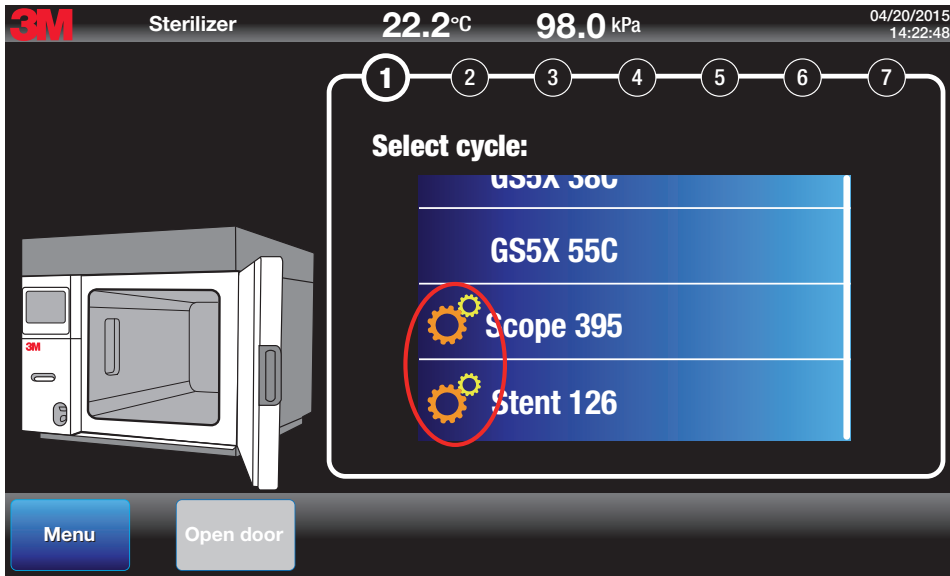

Figure 58.
- Imported custom cycles that were selected in **Menu>Setup>Site Setup>Cycle** now appear in the Cycle Start Screen. Custom cycles have the 'gears' logo next to the file name to distinguish them from the preprogrammed cycles (Figure 58).
- Assure Operator Cycle Start Screen (Figure 58) on the GSX Series sterilizer, displays a minimal number of custom cycles to help assure Operator selects and starts the correct cycle for the intended use.